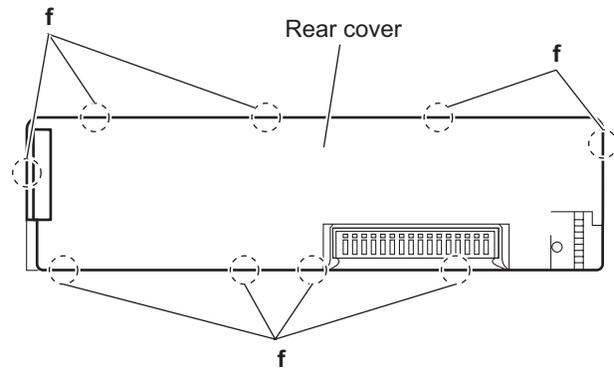

Fig.12
- Release the nine joints **f** and take out the rear cover. (See Fig.12)